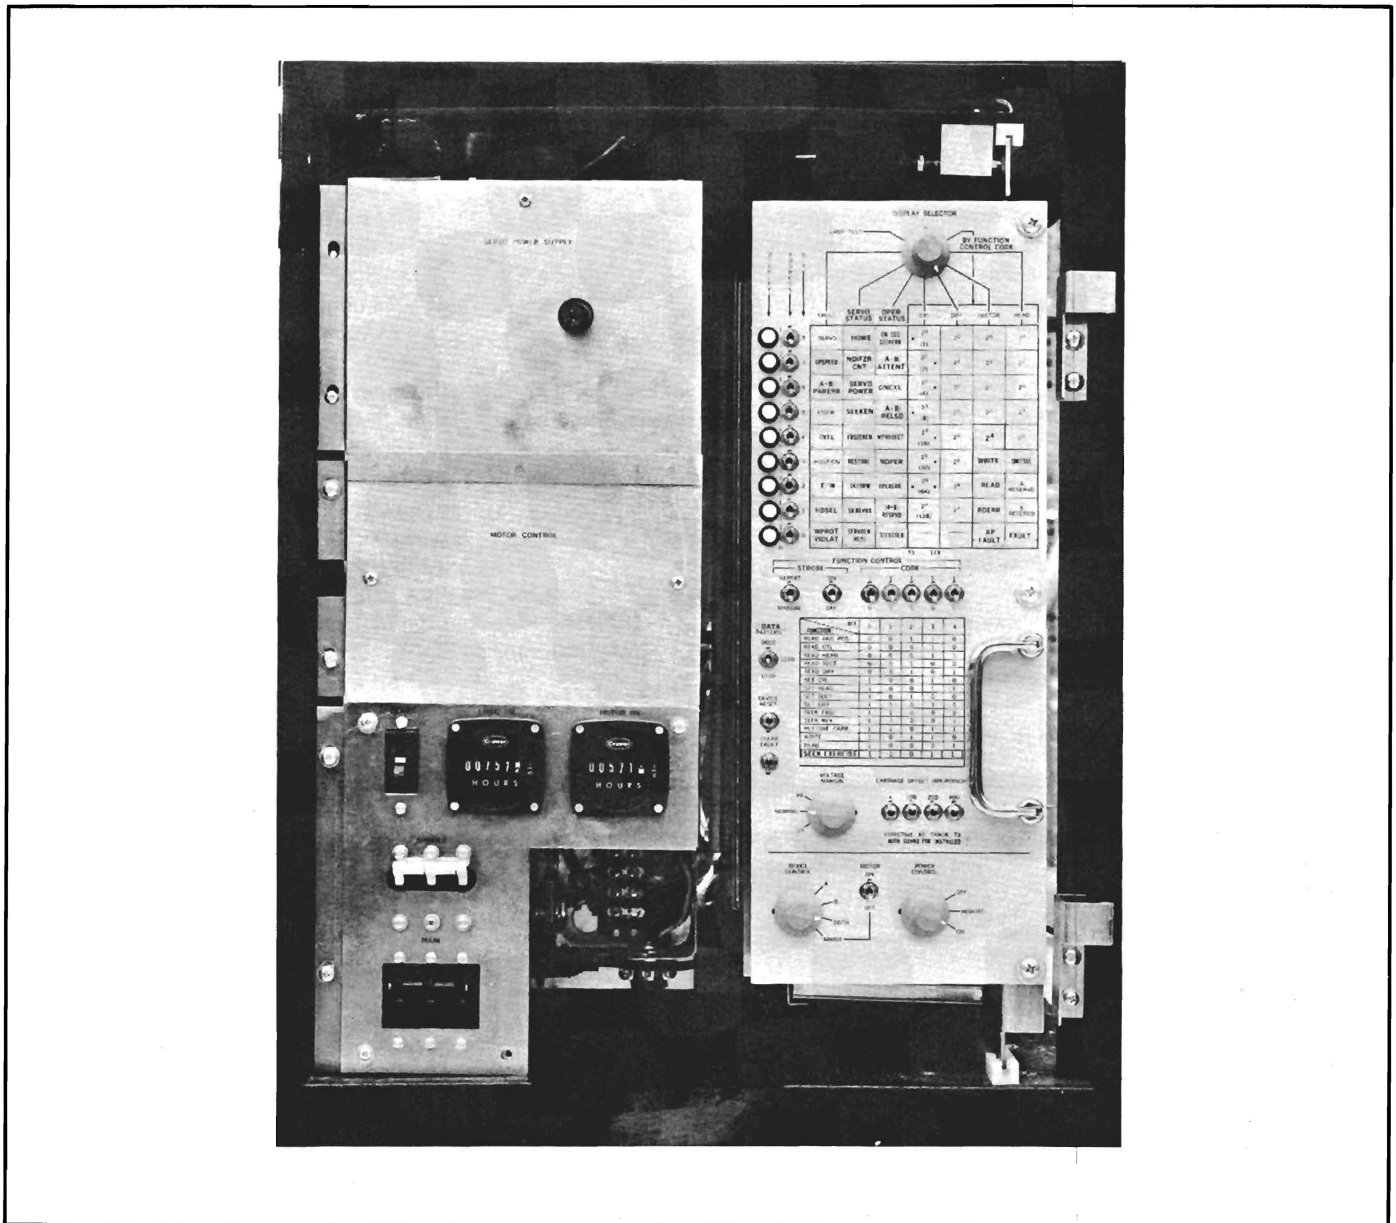

Figure 19. Disk Drive CE Maintenance Panel
Figure 19 depicts the CE maintenance panel located behind the rear panel of the disk drive storage unit. The operator is concerned with only these three controls located on the lower third portion of the panel: VOLTAGE MARGIN, DEVICE CONTROL, and POWER CONTROL. See "Disk Drive Power Turn On" for a description of their settings in that procedure.
4. Open the rear panel of the disk drive and position the maintenance panel switches (see Figure 19) as follows: VOLTAGE MARGIN switch to NORMAL; DEVICE CONTROL switch to A, B, or BOTH, as applicable; POWER CONTROL switch to REMOTE.